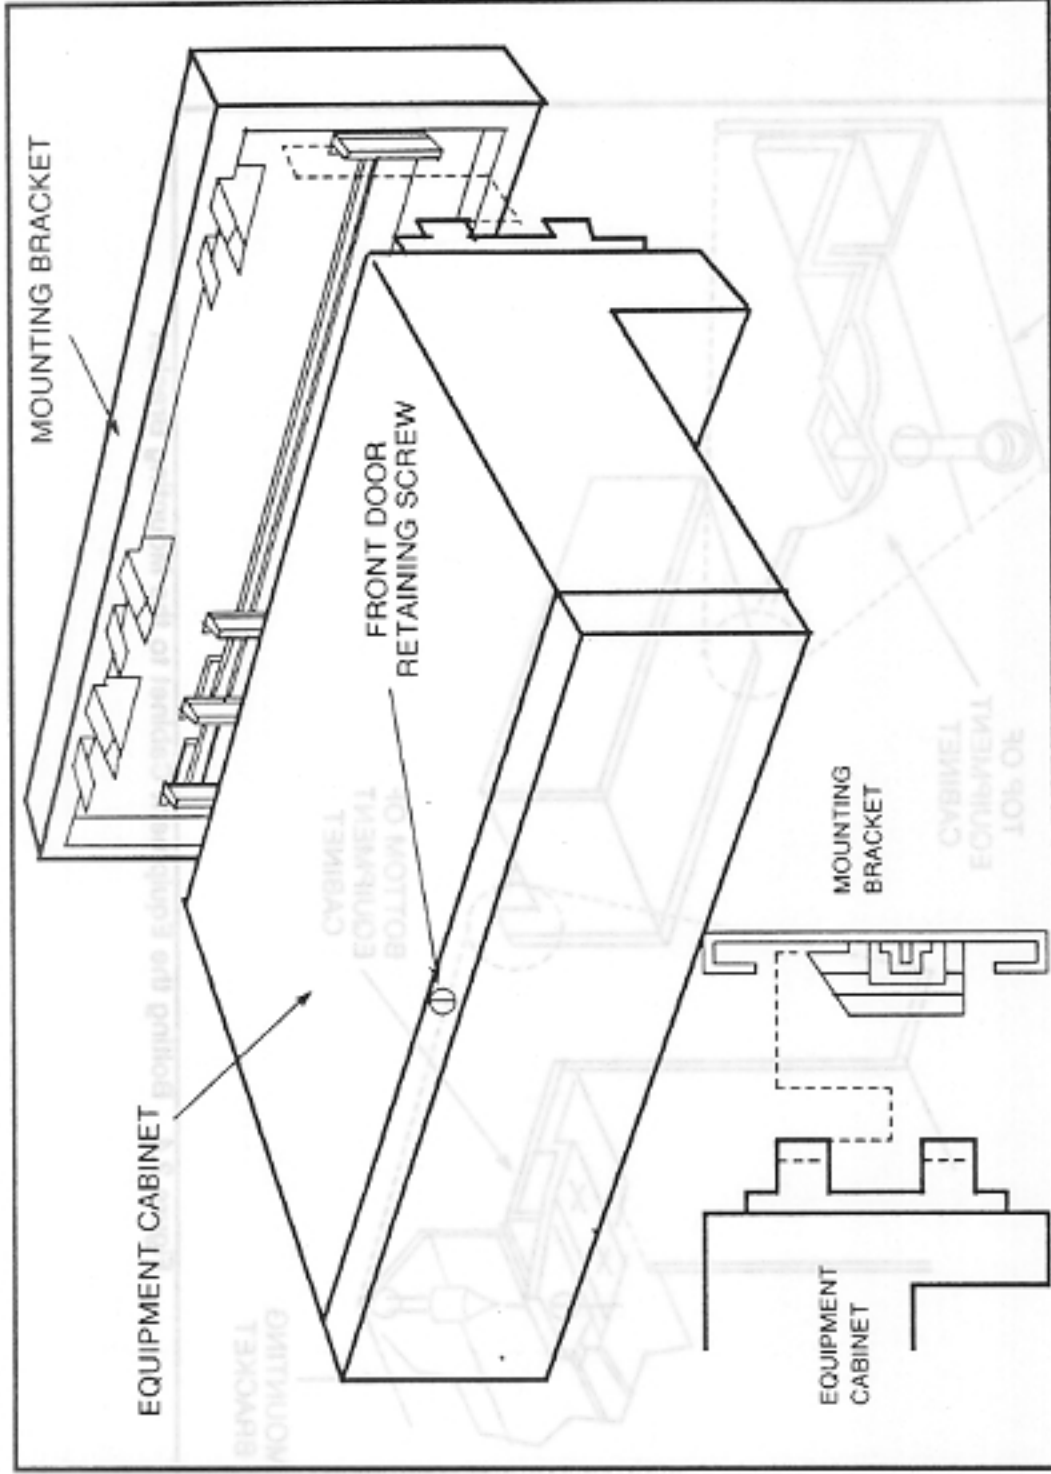

Figure 2.3 Lowering the Equipment Cabinet onto the Mounting Bracket
2.1.3 The equipment cabinet can now be mounted to the bracket. (See Figures 2.3 and 2.4.)
1. Lift and attach the equipment cabinet by lining up the top mounting screws and lowering the cabinet onto the mounting bracket as shown in Figure 2.3.